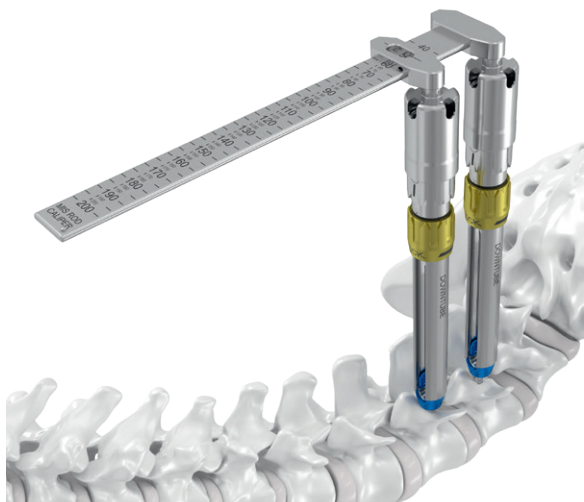

Fig. 19
2. Fully seat the rod length caliper cylinders onto the Downtubes of the most cranial and caudal screws while keeping both Downtubes parallel. (Fig. 19)